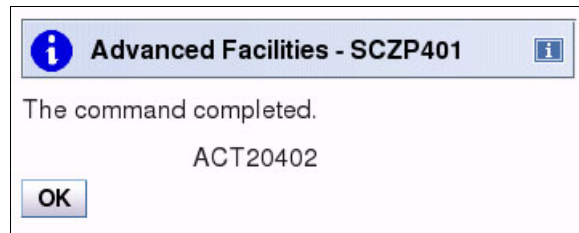

Figure 14-78 OSA Advanced Facilities: export source file completed
8. The HMC task writes the source file for the PCHID that was selected onto the media device and displays a message when it completes (Figure 14-78). Click **OK**.